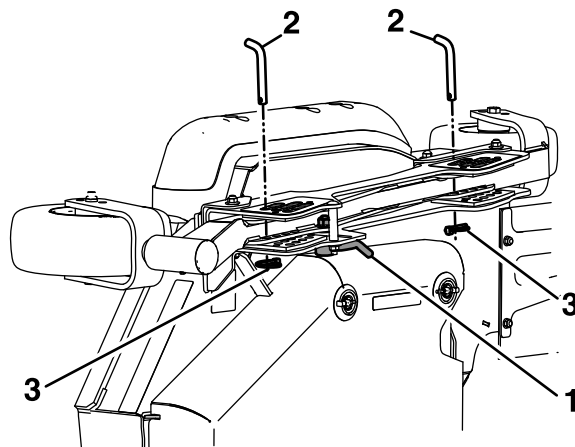

Figure 74
3. Unlock the left and right wing deck cam locks (Figure 74).
4. Remove and retain the wing deck height-of-cut lanyard (Figure 74).